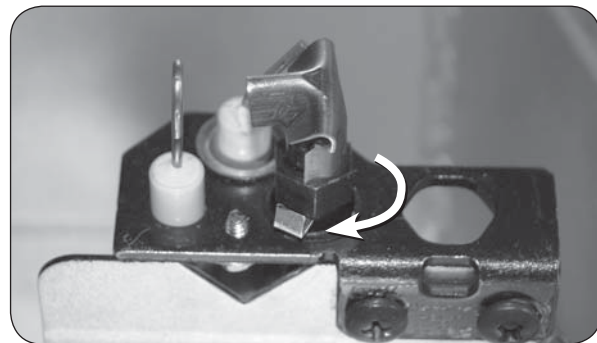

Fig. 5-1 Retighten pilot head
3. After confirming step 2 has been properly performed, retighten the pilot head until it is properly positioned toward the sensor as shown in Fig. 5-1.